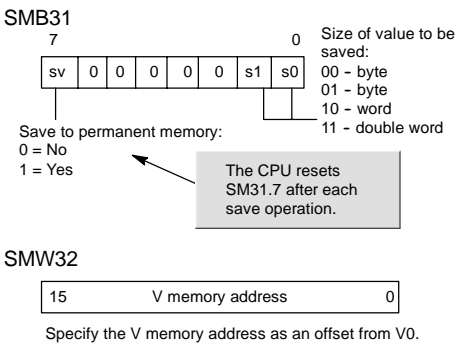

Figure 4-17 SMB31 and SMW32
Special Memory Byte 31 (SMB31) commands the S7-200 to copy a value in V memory to the V memory area of permanent memory. Special Memory Word 32 (SMW32) stores the address location of the value that is to be copied. Figure 4-17 shows the format of SMB31 and SMW32.
- 2. Load the size of the data in SM31.0 and SM31.1, as shown in Figure 4-17.